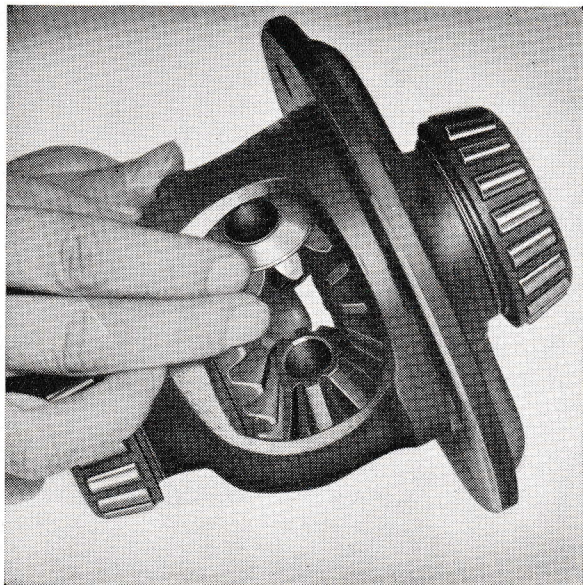

Fig. 14. Fitting the differential pinion gears.
1. If the differential has been disassembled, the differential side gears (38) and the thrust washers (39) are fitted in the differential carrier (43). Then "roll" in the differential pinion gears (41) (both simultaneously) with the recessed thrust washers (42), see Fig. 14.
2. Insert the spacer block (32) and drive in the shaft (31).